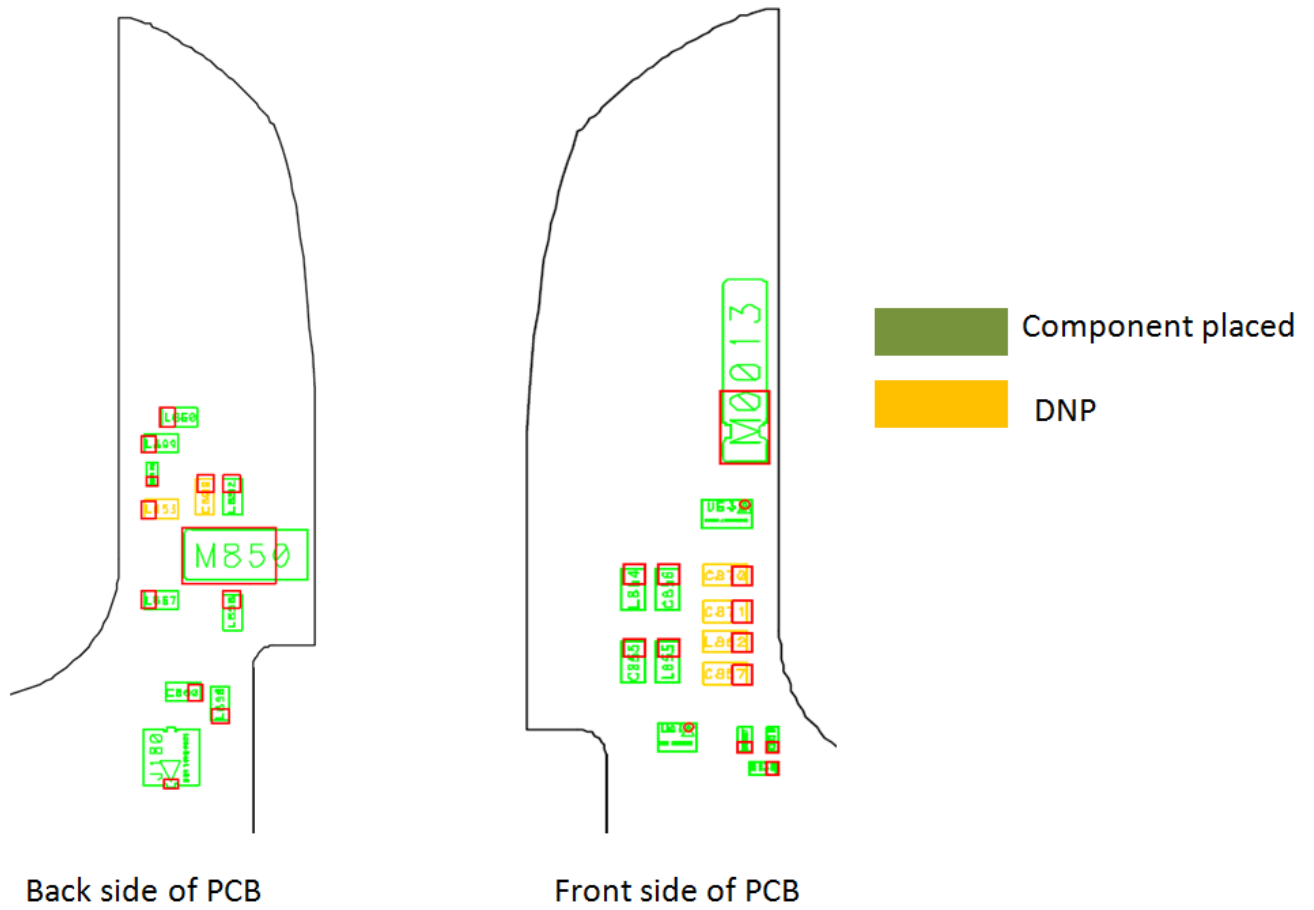

Figure 2: Antenna matching components, universal clip, & RF connector for secondary antenna
Step 3: If Step 2 does not resolve the problem check if components RefDes = L850, L899, L852, L854, C856, L855, C855, L857, L858, L898 and C860 are placed correctly on PCB as shown below in figures 2 and 3.